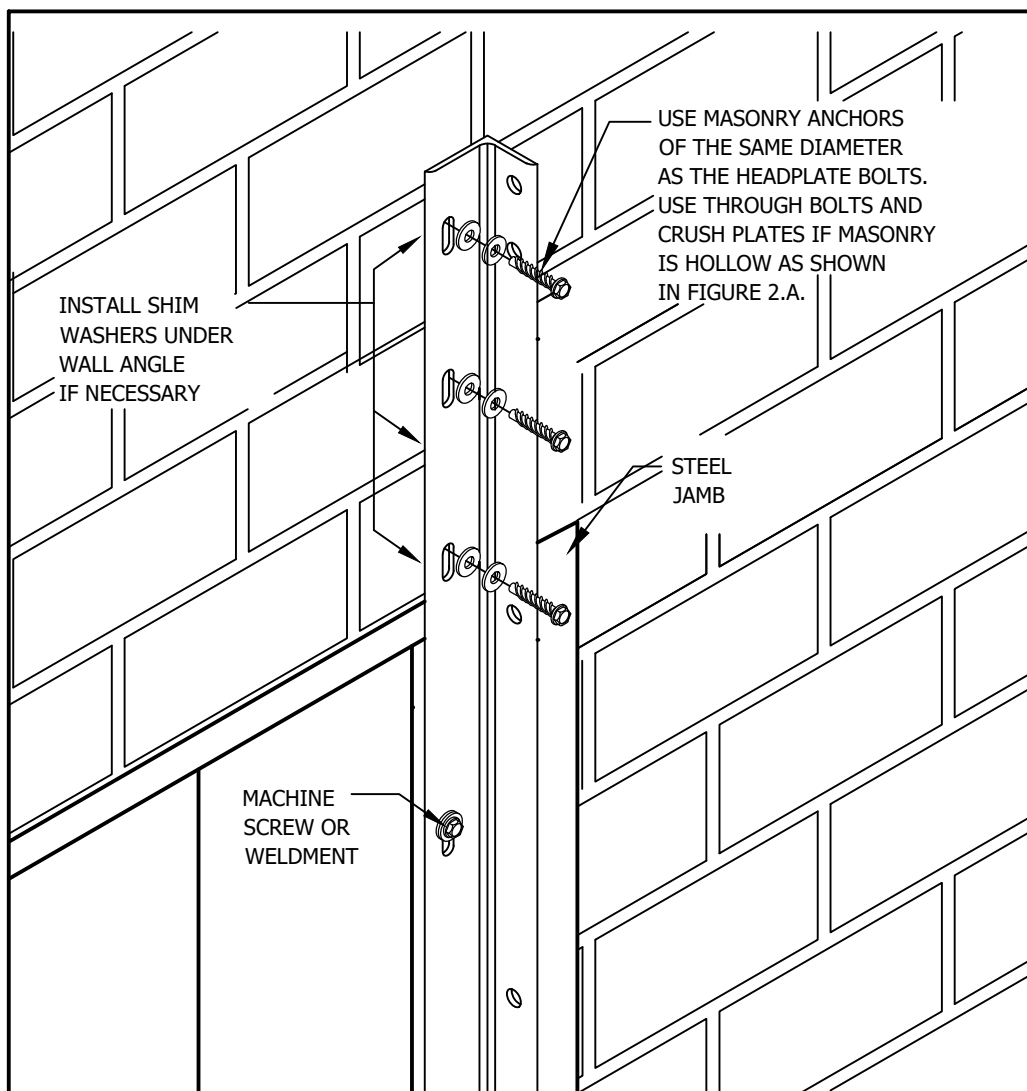

FIGURE 7
Reference Figure 3 to determine correct jamb fastener type for your application, and for drill bit size, etc. Locate wall angle masonry anchors or machine screws in the TOP of each slot as shown in Figure 7.
NOTE: Wall angles may extend above steel jambs onto masonry. In this case, attach with masonry anchors of size and type recommended by manufacturer. Mount in the top of each slot as shown in Figure 7. Shim with washers as required to maintain a flush mounting surface for the wall angle. Use anchors that match the diameter of headplate bolts.
- ✓ Two hot dipped galvanized washers must be installed under the head of each jamb fastener as shown in Figure 7.